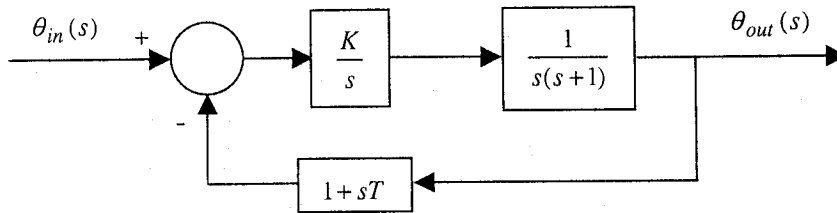

Fig.3
- (b) Fig.3 shows the block diagram representation of a position-control servomechanism with integral-action control. Show that the closed-loop transfer function of the system is given by